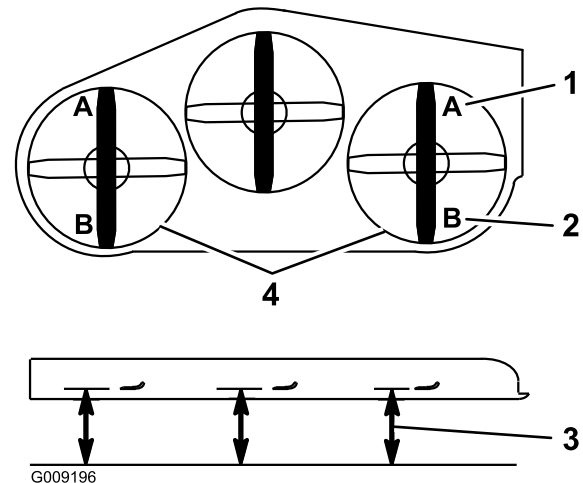

Figure 82
9. On both sides of the deck, measure from the level surface to the front tip of the blade (Position A). The measurement should read 3 inches (7.6 mm) (Figure 82).
- On both sides of the deck, measure from the level surface to the back tip of the blade (Position B). The measurement should read 3 1/4 inches (8.3 cm) (Figure 82).